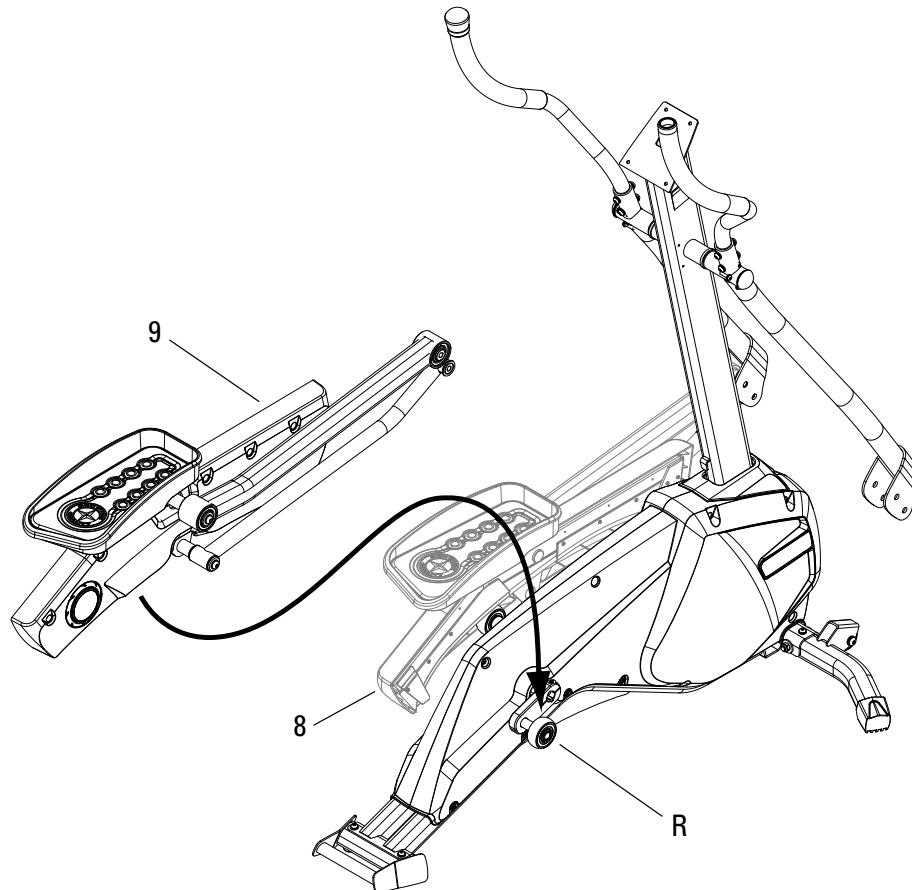

Figure 6b
6-2 Set the Cam Assembly on the Crank Arm roller (R) as shown in Figure 6b. There is a track on the Cam Assembly that sits on the Crank Arm roller.